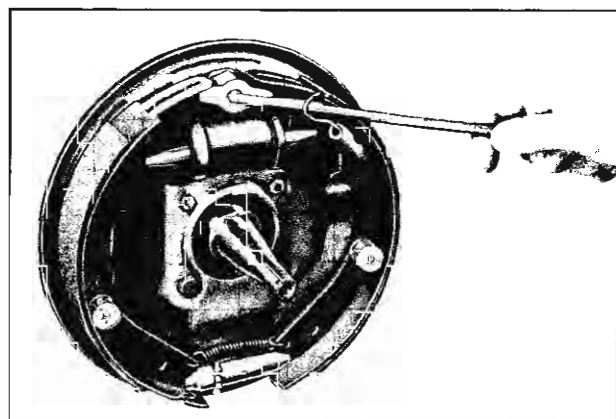

Fig. 19—Installing Pull Back Springs
8. If old brake pull back springs are nicked, distorted, or if strength is doubtful, install new springs. Install guide plate over anchor, hook springs in shoes and using Tool J-8049, install spring connected to primary shoe over anchor (fig. 19), and then spring connected to secondary shoe over anchor.